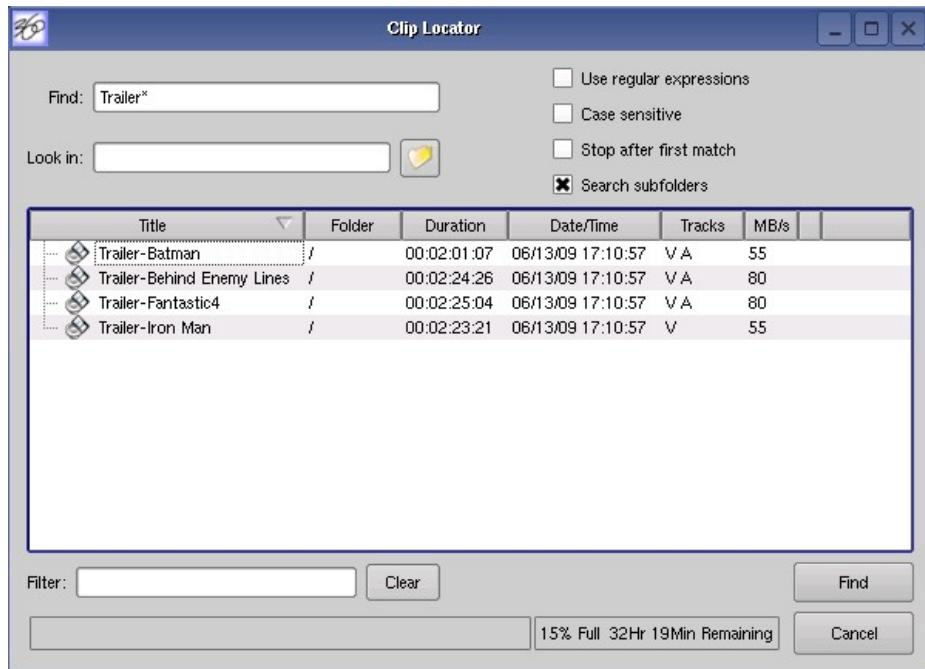

Figure 21 - Clip Locator
1. Click **SHOW>FIND CLIPS**. The Clip Locator screen of Figure 21 - Clip Locator appears.